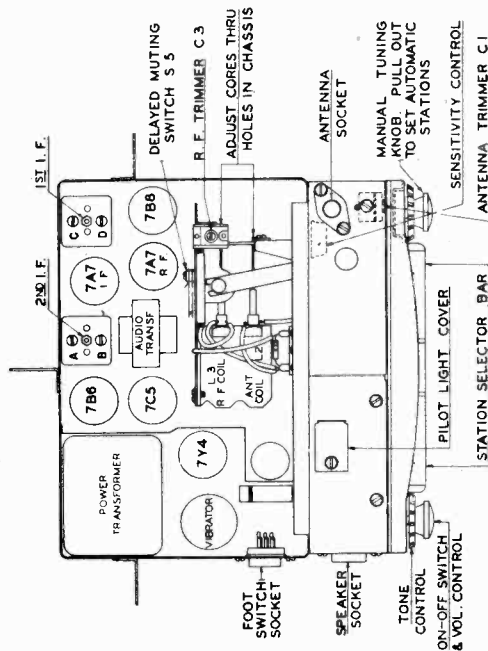
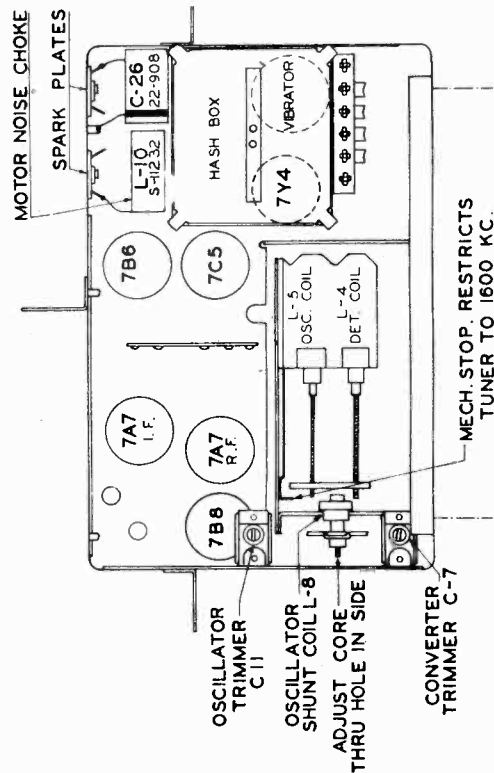

Fig. 7. Top View of Chassis
Fig. 8. Bottom View of Chassis
- 6—Adjust oscillator trimmer C-11 (Fig. 8) at 1700 Kc.
- 7—Adjust converter trimmer C-7, R.F. trimmer C-3, and antenna trimmer C-1 (Fig. 7 and 8) for maximum output reading.
- 10—Adjust oscillator core L-5 (Fig. 8) to scale at 1200 Kc.
- 11—Adjust the antenna core, R.F. core, and converter core (Fig. 7 and 8) for maximum output reading.
3—"Rock in" shunt oscillator coil L-8 (Fig. 8) for maximum output reading. This should be done only as a last resort. This is the same as rocking in the paddler condenser on a ganged condenser receiver.
- 4—Adjust I.F. trimmers A, B, C and D (Fig. 7) in the order named for maximum output. Repeat the operation to assure accurate alignment.
- 4—Adjust oscillator trimmer C-11 (Fig. 8) for maximum response.
- 7—Adjust converter trimmer C-7 (Fig. 8) and R.F. trimmer C-3 (Fig. 7) for maximum response.